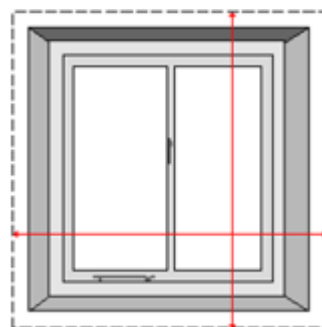

Fig.2 Measuring outside the recess
1. Measure the exact width of where you would like your blind to be (allow a similar amount of overlap on each side if fitting outside of a recess) as shown in Fig.2 above. Immediately note down the measurement.
2. Measure the exact drop of where you would like your blind to be (allow a similar amount of overlap at the top and bottom) as shown in Fig.2 above. Immediately note down the measurement.